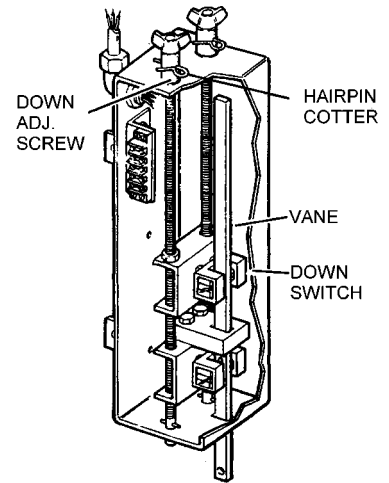

Figure 52A
3. Remove cover from Opto Box (See Figure 52A).